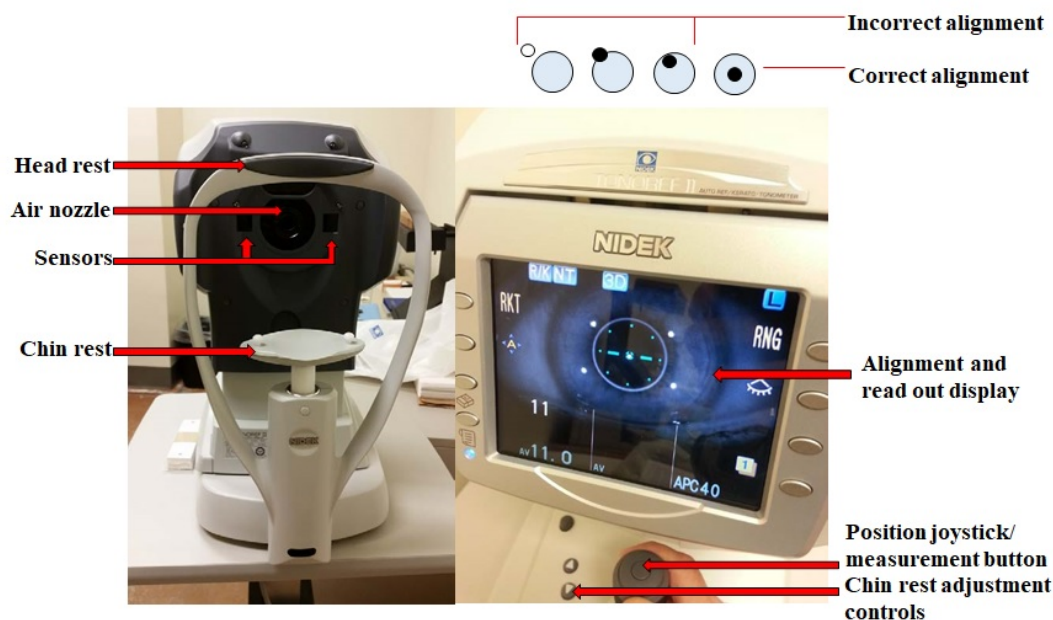

Figure 2-4. Non-contact tonometer.
The most commonly performed type of tonometry in the Air Force (AF) and civilian world is non-contact tonometry (NCT). Performing NCT is a quick and painless way to screen patients for elevated IOP. An NCT has one major advantage over other types of tonometry. There is no contact with the eye, therefore, no need for a topical anesthetic. This significantly decreases testing time and reduces the possibility of an eye injury or infection as compared to conventional applanation tonometry. If you have had this test performed, you probably remember it well. The test is not painful, although it is rather unpleasant. The non-contact tonometer (fig. 2-4) shoots a gentle puff of air at the eye (the unpleasant part!), and then computes the time it takes the air pulse to flatten the cornea.
Look at figure 2-4 and find the chin rest. This is where the patient places his or her chin. The patient's head presses against the headrest, which tells the machine a patient is in place. Next, the air nozzle must align perfectly to get a correct reading. For this, the vertical and horizontal adjustments align using the chin rest adjustment controls and the alignment joystick.